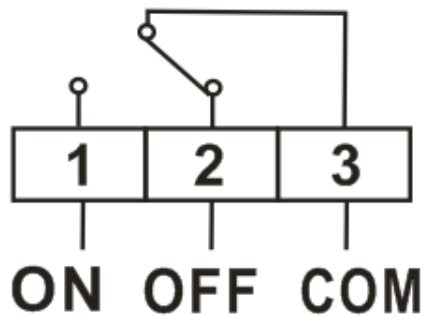

Figure 2
2. Connect wires beneath terminal screws on the base using appropriate wiring schematic. See figure 2